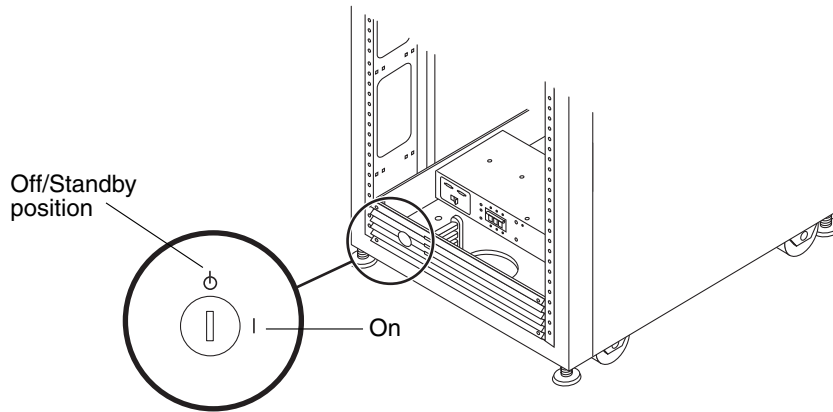

FIGURE B-1 Location of Key Switch on Bottom Front Panel (Standby Position)
1. **Verify that the key switches, located at the bottom front of the base cabinet and any expansion cabinets (if applicable), are in the Standby position (FIGURE B-1).**